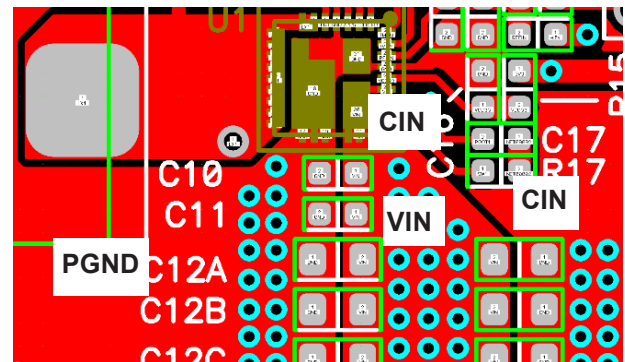

Figure 14. VIN Power Planes and Input Capacitors
- Place VIN and PGND planes as shown in Figure 14.